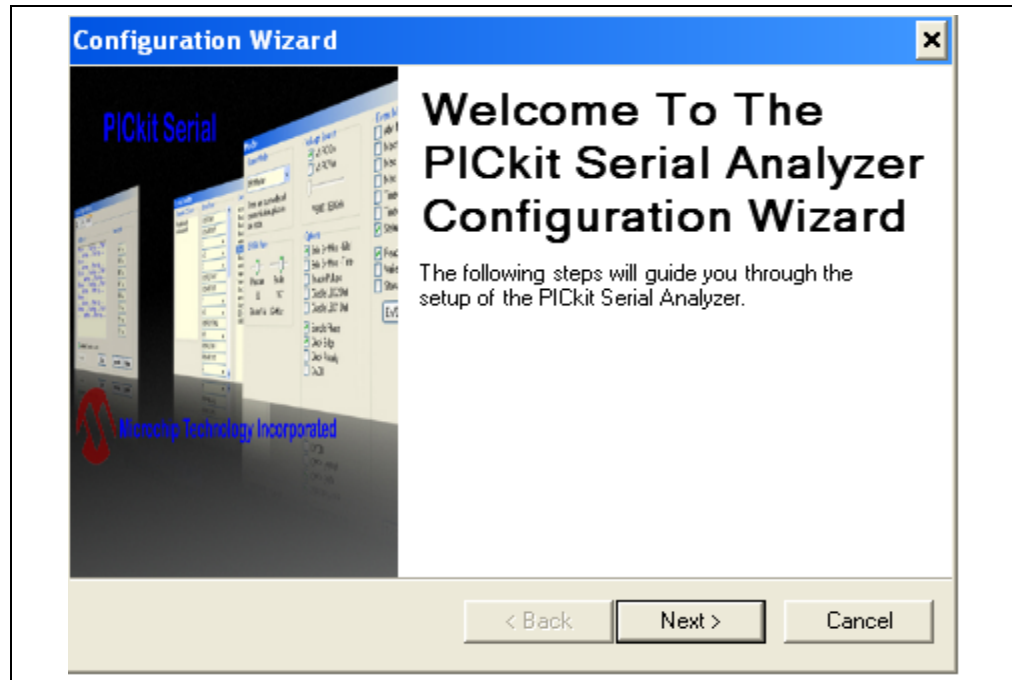

**FIGURE 1-2:** MCP4725 SOT-23-6 Evaluation Board Test Set Up.
3. Connect a Digital Voltmeter to  $V_{OUT}$  and GND terminals on the MCP4725 SOT-23-6 Evaluation Board. Figure 1-2 shows the connection example.